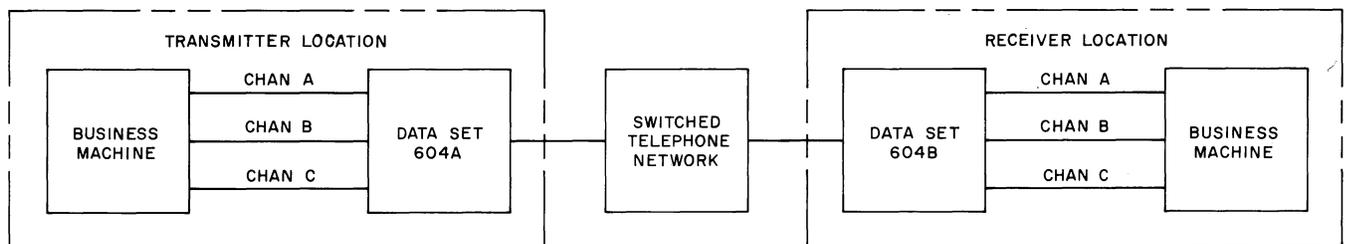

Fig. 1—System Block Diagram
**1.01** This section covers the procedures to be used for testing Data Set 604B-type. It does not cover the testing of the associated business machine, but some information is provided about the test relationship of the associated transmitter, Data Set 604A-type, to the receiver of the system, Data Set 604B-type (Fig. 1).